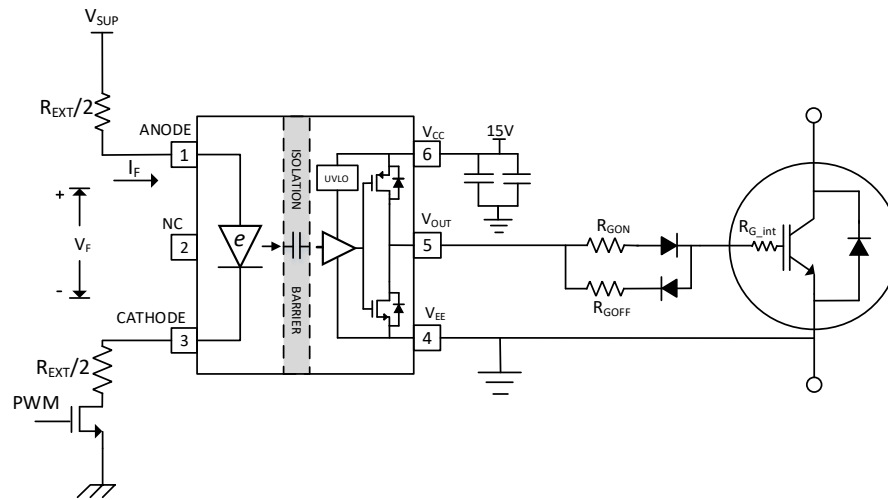
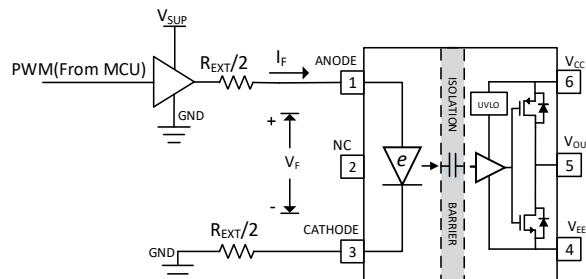
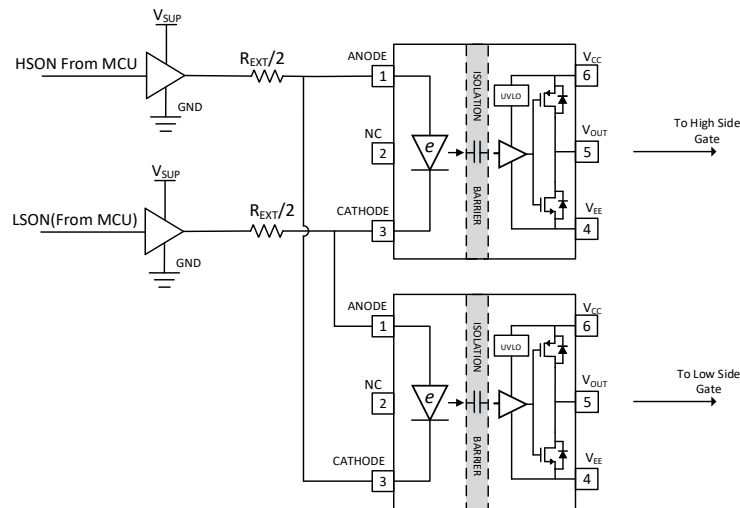

Figure 8.1 NSi6801 typical application circuit with NMOS driving input stage
Figure 8.2 NSi6801 typical application circuit with one buffer driving input stage
Figure 8.3 Interlock Protection using NSi6801
NSi6801 requires 7mA to 16mA bias current that flows into the e-diode for normal operation. The PWM from MCU is not suitable to provide such current directly and external circuit is needed. In Figure 8.1, one NMOS is used with split input resistors. Another input drive method is using one buffer, as shown in Figure 8.2. The details to calculate input drive parameters are in Chapter 8.3.
The recommended forward current range for NSi6801 is 7mA to 16mA. The value of input resistor, buffer supply voltage and buffer internal resistance influence the forward current, as shown in Equation (1). In Figure 8.1, R_{Buffer} is the on-resistance of the external NMOS. In Figure 8.2, R_{Buffer} is the buffer output impedance in output “High” state. In Figure 8.3, R_{Buffer} is the summary of buffer output impedance in “High” and “Low” state.